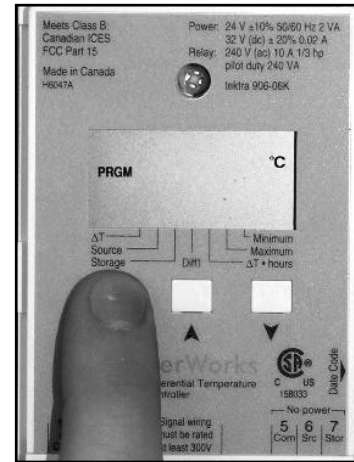

Fig.7.1 – Changing display between Fahrenheit (°F) and Celsius (°C)
6. Determine if homeowner wants display units in degrees Fahrenheit (°F) or degrees Celsius (°C). To change, push all three buttons at once to enter program (PRGM) mode. Push item button eight times such that °F or °C is flashing (Fig.7.1). Use “up” or “down” button to select desired units. Do not modify any other settings. Controller will revert to automatic mode after a few seconds. See Appendix - *Controller Operation* for more details.